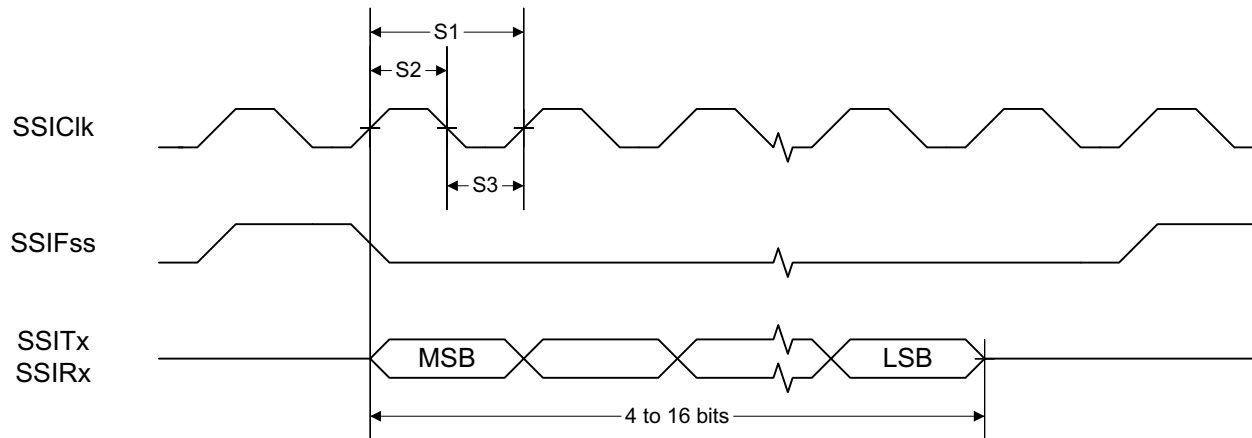
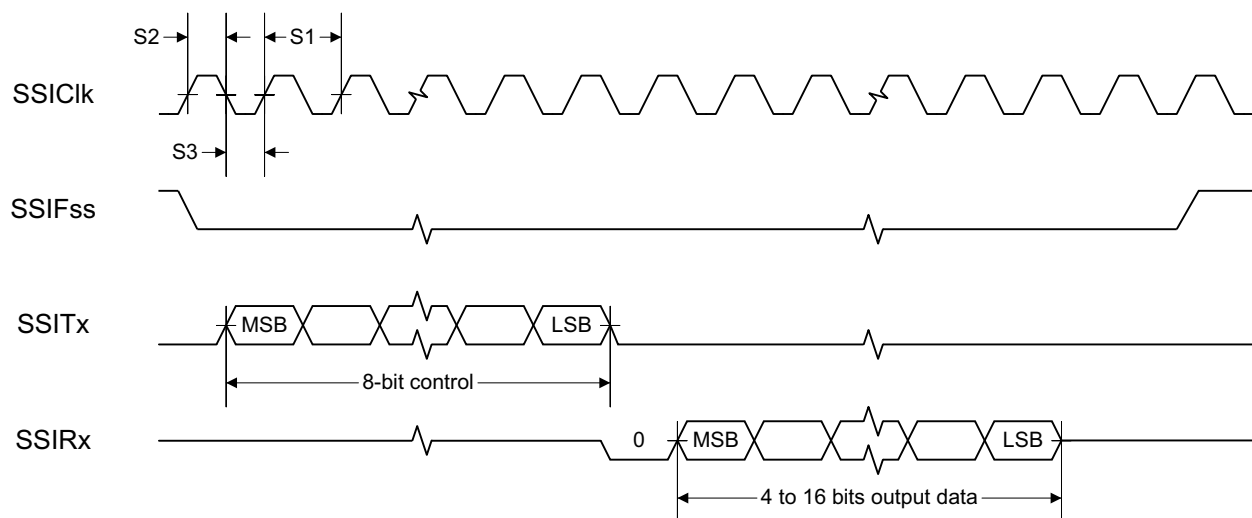
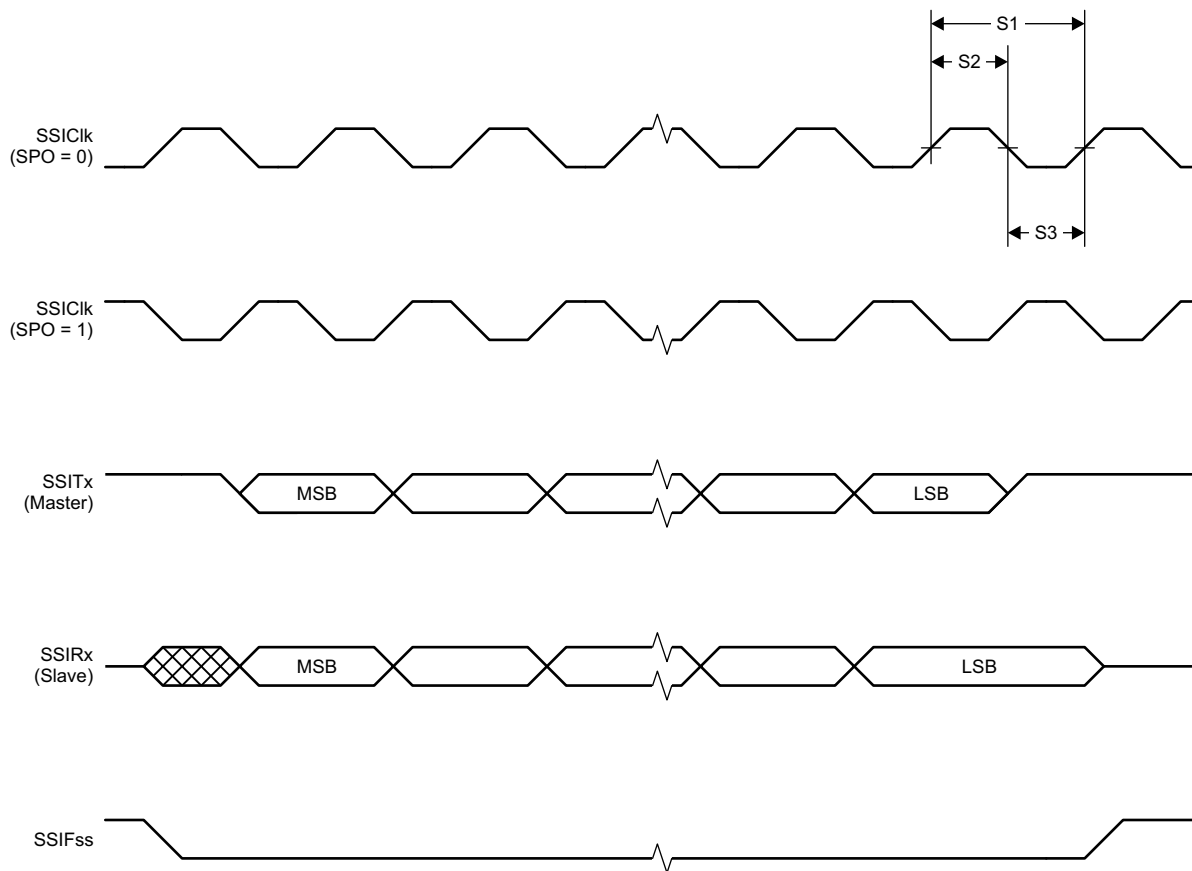

Figure 7-1. SSI Timing for TI Frame Format (FRF = 01), Single Transfer Timing Measurement
Figure 7-2. SSI Timing for MICROWIRE Frame Format (FRF = 10), Single Transfer
Figure 7-3. SSI Timing for SPI Frame Format (FRF = 00), With SPH = 1
(1) Refer to SSI timing diagrams Figure 7-1, Figure 7-2, and Figure 7-3.